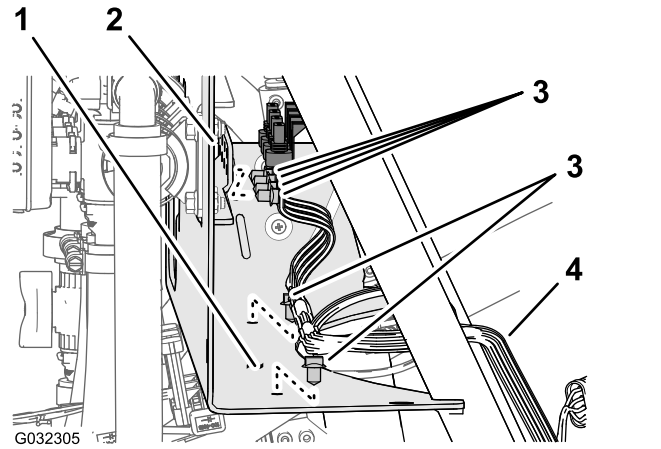

Figure 24
- Remove the push-in fasteners that secure the rear wire harness to the holes at the forward side and lower plate of the manifold mount (Figure 24).